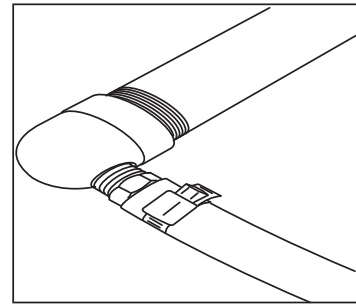

Figure 1.
1. Install the hose onto the barb of the pump and secure with the supplied hose clamp. **See Figure 1.**